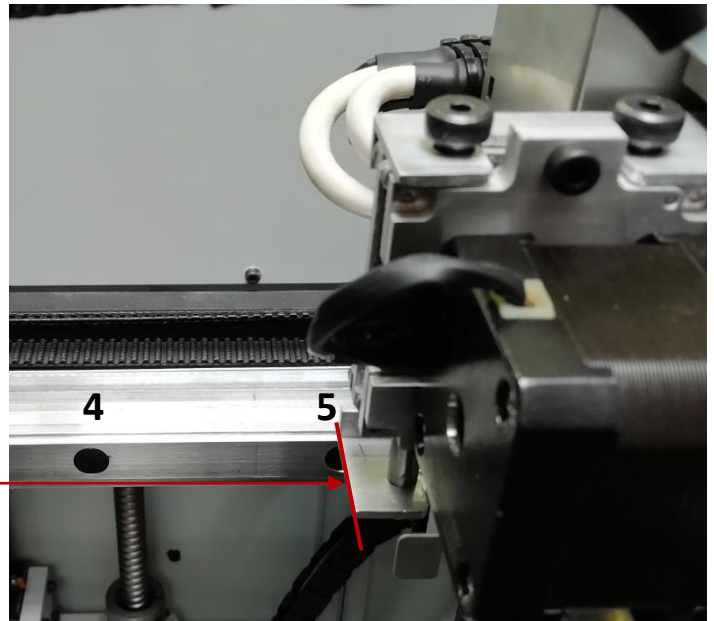

Fig. 40 Positioning the carriage on the Y axis
- The carriage on the Y axis shall be positioned as shown in Fig. 40. The marked sheet metal edge should be positioned in the middle of the black mounting hole of the linear guide, counting from the fan on the rear side of the printer (Fig. 40).